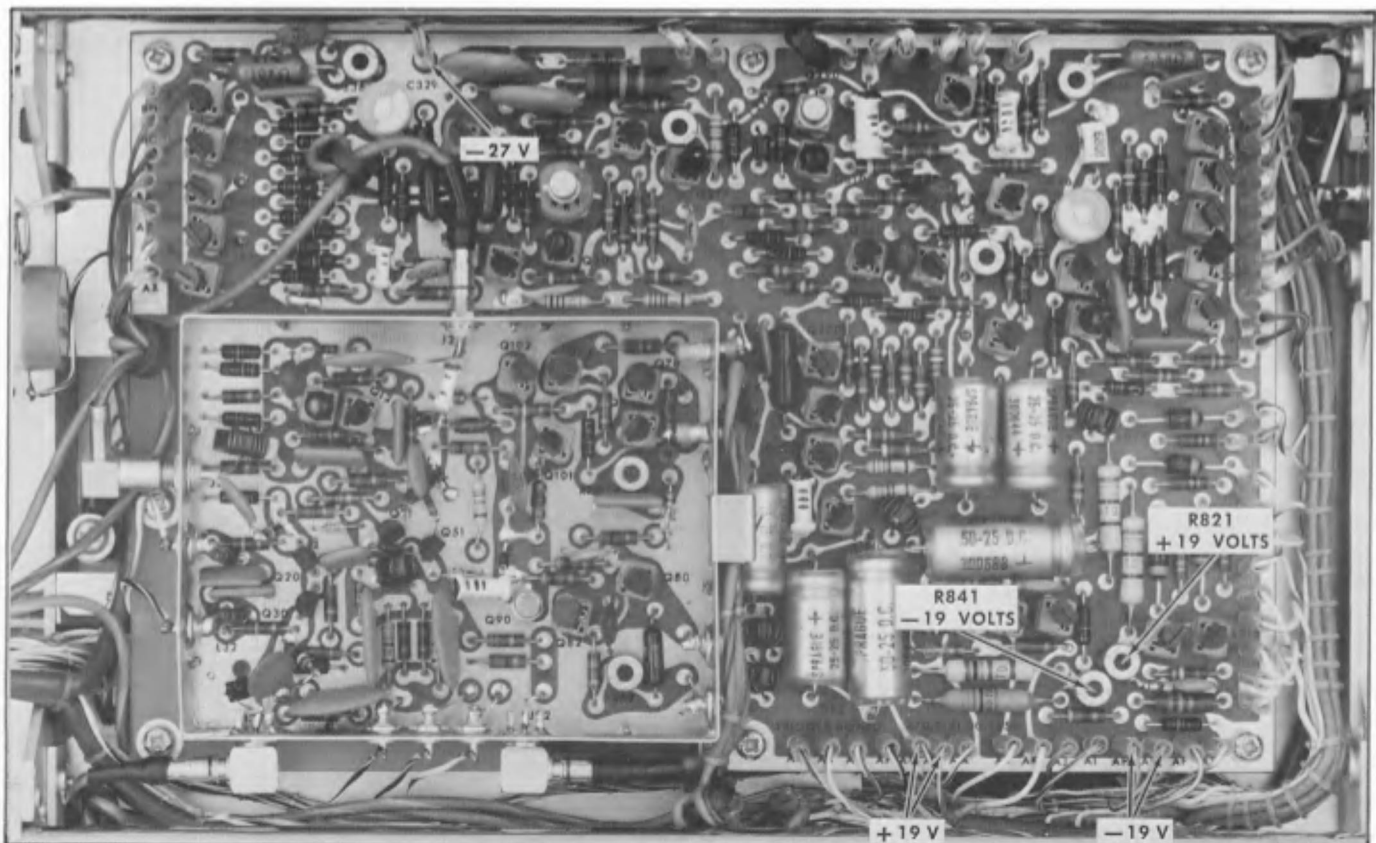

Fig. 7-4. Location of power supply test points and adjustments, right side of instrument, on Trigger Board Assembly.
**2. Check or Adjust -19 Volts****①**
a. Use the equipment setup as shown in Fig. 7-3. Connect the 1× probe to the -19 Volt test point shown in Fig. 7-4. Set the TRIG SENSITIVITY control fully counterclockwise after the Indicator oscilloscope trace is known to be present.
**3. Check or Adjust +19 Volts****①**
a. Connect the 1× probe to the +19 Volt test point shown in Fig. 7-4.
a. Connect the 1× probe to the -27 Volt test point shown in Fig. 7-4.